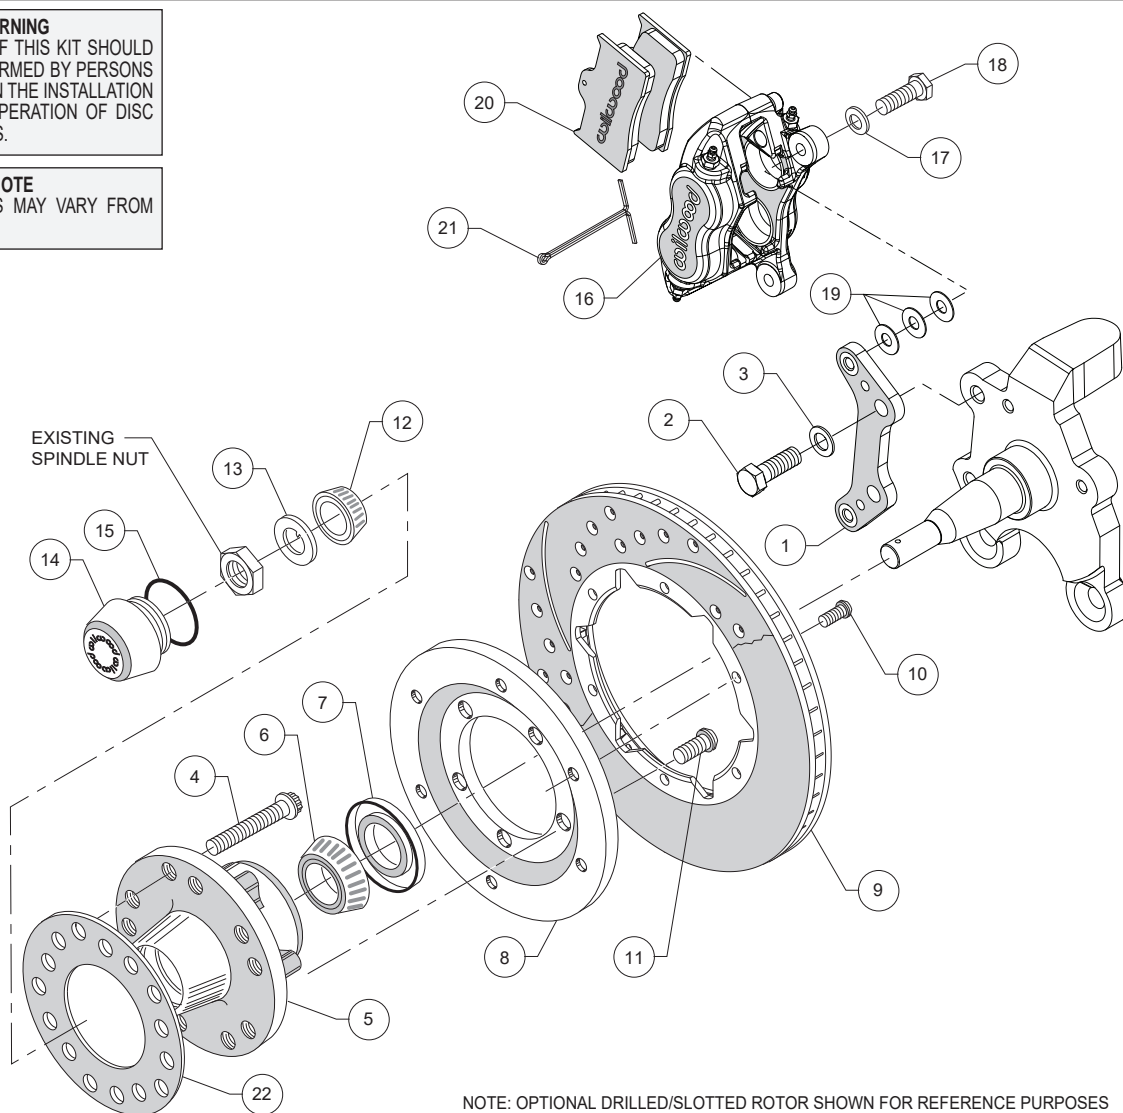

Figure 1. Typical Installation Configuration
Assembly Instructions (numbers in parenthesis refer to the parts list, on the preceding page and Figure 1): **CAUTION:** All mounting bolts must fully engage clinch nuts. Be sure to check that all bolts are either flush or protruding through flanged side of clinch nut after shimming, Figure 3.
- Align caliper mounting bracket (1) with the corresponding holes, to the face of the spindle. Attach using bolts (2), and washers (3), as shown in Figure 1 and Photo 1. Temporarily tighten the mounting bolts. Ensure that the flanged heads of the clinch nuts in the bracket are facing outboard, Photo 1. **NOTE:** The bracket must fit squarely against the mounting points on the spindle. Inspect for interference from casting irregularities, machining ridges, burrs, etc. Remove bolts one at a time, apply red *Loctite*® 271 to threads and torque to 77 ft-lbs.
- Install the grease seal (7) by pressing into the backside of the hub (5), flush with the end of the hub, Photo 3.
- Orient the rotor (9) and the rotor adapter (8) as shown in Figure 1 and Photo 4. Attach the rotor to the adapter using bolts (10). Using an alternating sequence, apply red *Loctite*® 271 to the threads, and torque to 25 ft-lb.
- Mount the adapter/rotor assembly (8/9) to the hub (5) using bolts (11), as shown in Figure 1 and Photo 5. Using an alternating sequence, apply red *Loctite*® 271 to the threads, and torque to 45 ft-lb.
- NOTE:** Please reference the caution statement at the beginning of the assembly instructions. Mount the caliper (16) onto the caliper mounting bracket (1) using bolts (18) and washers (17), as shown in Figure 1. Initially place three .035" thick shims (19) on each bolt between the caliper and the bracket, Photo 8. Temporarily tighten the mounting bolts and view the rotor (9) through the top opening of the caliper. The rotor should be centered in the caliper, Photo 9. If not, adjust by adding or subtracting shims between the bracket and the caliper. Always use the same amount of shims on each of the two mounting bolts. **NOTE:** The end of each bolt must be flush with or slightly protruding from the head of the clinch nut, as shown in Figure 3. If necessary place spare shims between washer (17) and caliper mounting ear to achieve the proper clinch nut engagement. Once the caliper alignment and clinch nut engagement are correct, remove the bolts one at a time, apply red *Loctite*® 271 to bolt threads, and torque to 40 ft-lb.